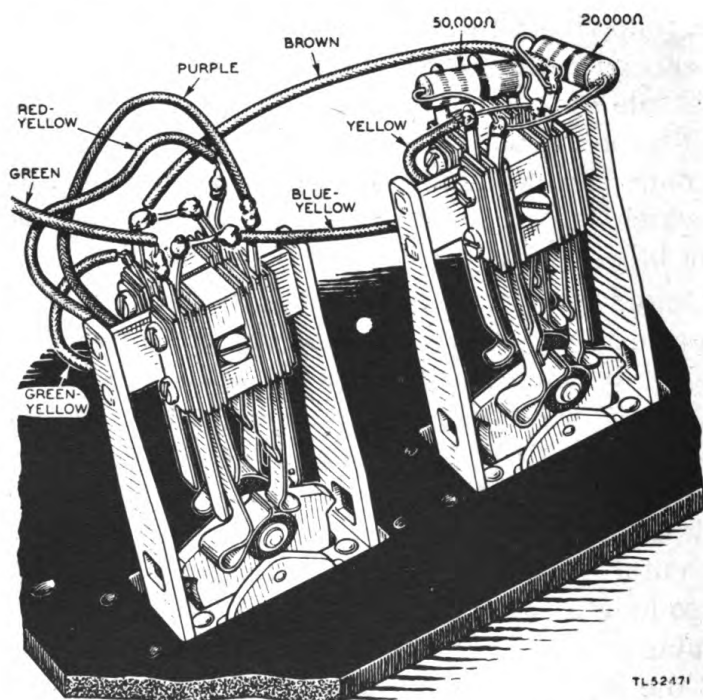

Figure 36. Connection diagram for keys on line connector unit.
e. **KEYS.** If any of the springs or other parts of the keys are broken, replace the key. Before removing the old key, check the connections against the connection diagram (fig. 36). Unsolder all connections and remove the resistors, remove the screws on the faceplate of the key, and the key will fall out. When replacing the key, secure it to the panel by the screws in the faceplate and then resolder the connections. When replacing the resistors, wrap